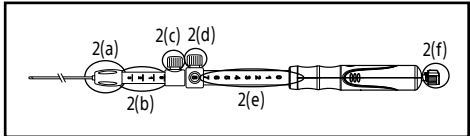

Figure 2.
2. Confirm that the needle is fully retracted and that the needle adjustment lock (Figure 2(d)) is secure in the zero position (Figure 2(e)).
3. Determine the appropriate sheath length relative to the length of the echoendoscope. Use the sheath adjustment lock (Figure 2(c)) to set the desired length of the sheath and lock it in place. Turn the sheath adjustment lock clockwise to lock the sheath in place. The distal end of the sheath should be visible on the endoscopic image.
Note: The reference numbers and markings on the sheath adjust gauge (Figure 2(b)) are intended as reference only.
6. Continue to advance the device until it exits the echoendoscope and the sheath is visible in the endoscopic image. Tighten the luer attachment (Figure 2(a)) by turning clockwise to attach the device to the working channel port of the echoendoscope.
Note: If it is necessary to adjust the sheath length, loosen the sheath adjustment lock (Figure 2(c)) and reposition it to the appropriate reference point.
8. Adjust the needle penetration depth to the desired position using the needle adjustment lock (Figure 2(d)). To control the depth of needle penetration to the target site, loosen the needle adjustment lock by turning the knob counterclockwise. Align the needle adjustment lock with the appropriate reference number on the device handle. Lock in place by turning the needle adjustment lock clockwise.
Note: The reference numbers on the needle depth gauge (Figure 2(e)) are intended as reference only. The reference numbers represent needle extension (in centimeters) when the device is in a straight position.
10. Remove the stylet (Figure 2(f)) from the aspiration port of the device by gently loosening and pulling it from the device handle.
Note: The stylet can be coiled and clipped together using the clip mechanism on the stylet cap (Figure 2(f)). The stylet should be retained for additional needle passes during the same procedure.
12. Connect the supplied syringe to the aspiration port (Figure 2(f)) on the device handle.